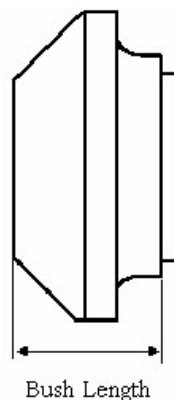

Figure 8.1: Measurement of Traction Rod Rubber Bush
- 8.1 Measure the length of each of the four bushes as shown in Figure 8.1.